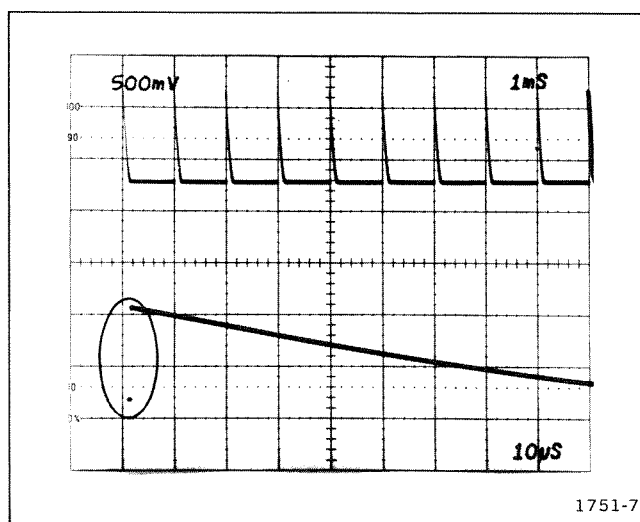

Figure 4-9. DTM Scale and Delay Start.
- c. Adjust DTM Scale R495 to start rising portion of tenth marker at start of Delayed sweep. (See Figure 4-9.)